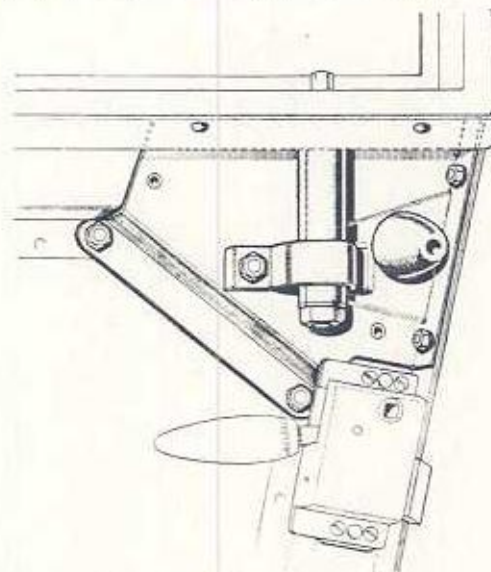

Fig. 1. Door gusset plate.
6. Fit the gusset plate in position as shown at Fig. 1.